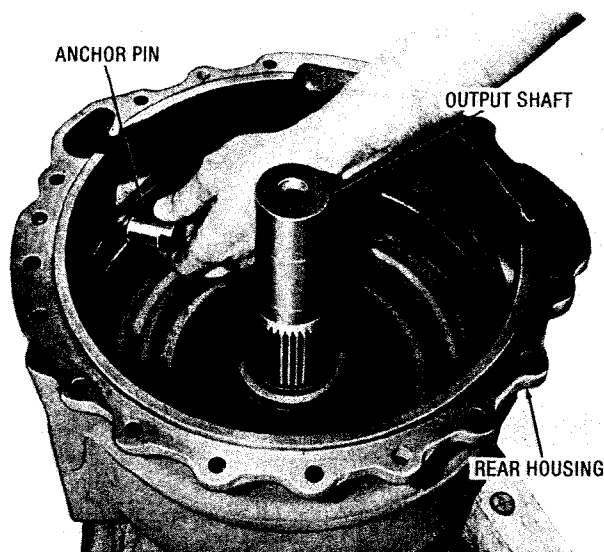

Fig. 7-56. Installing clutch anchor pin (TRT-3 overdrive)
(1) Install the clutch anchor pin into the rear housing (as rebuilt in paragraph 6-11). Leave the flat-milled end of the pin extending at the inside of the housing (fig. 7-56).